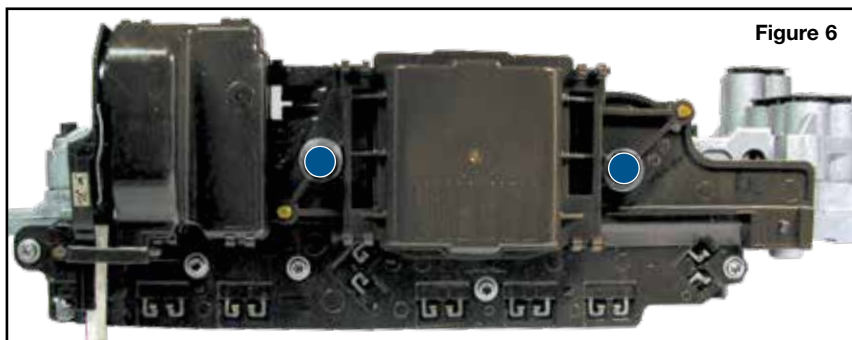

Figure 6
- Remove the two 8mm head bolts on the side of the TEHCM (Figure 6).
- Place the TEHCM on the valve body. Install the two 8mm head bolts and *hand-tighten only* (Figure 6).